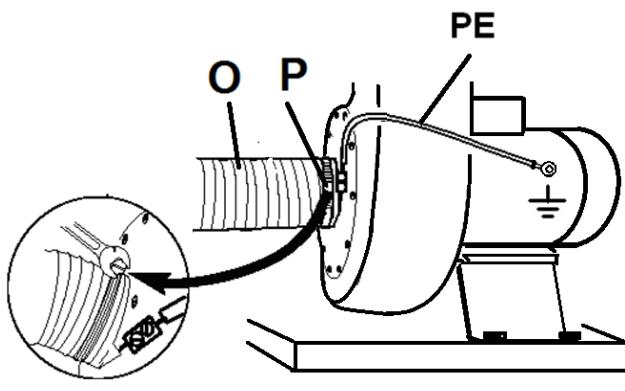

Fig 12
Use a hose clamp (P, Fig 12) to connect the hose (O) to the intake port.